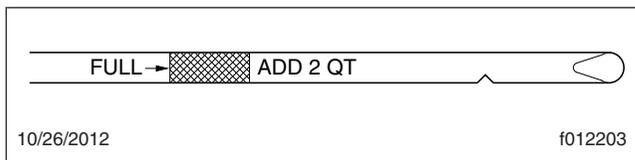

Fig. 10.3, Oil Dipstick
- 7.3 If the oil is below the cross-hatched area, or the add mark, at the tip of the dipstick, add at least one quart (liter) of the recommended oil. See Fig. 10.3.